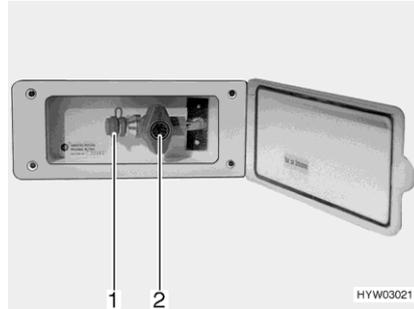

Fig. 90 External gas connection (gas isolator tap closed)
- Connect the external gas device to the connection point (Fig. 90,1).
- Open the gas isolator tap (Fig. 90,2).